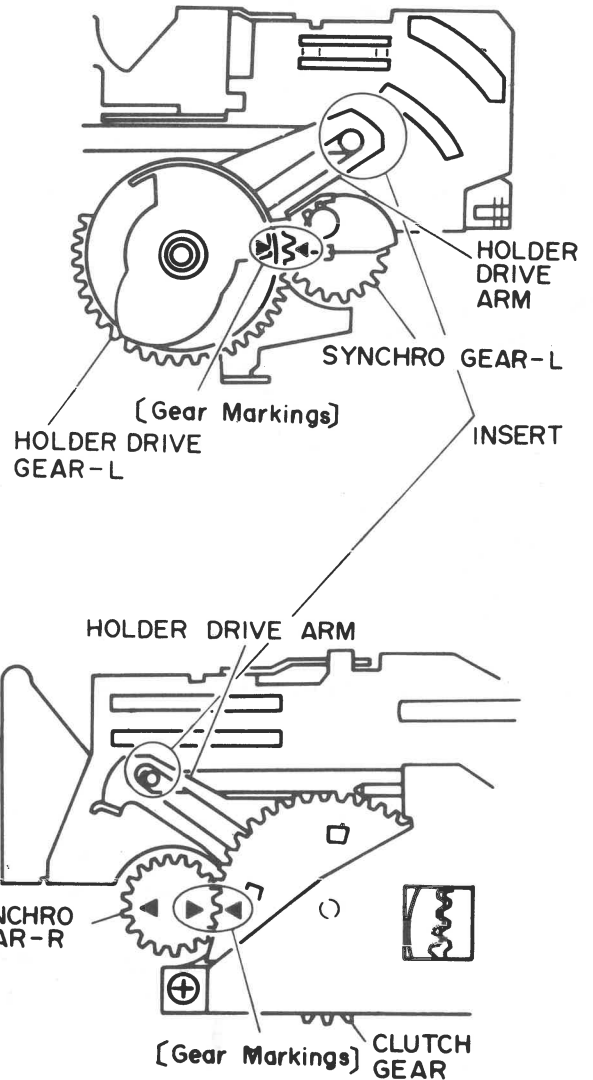

Fig. 16 Door Drive Arm/Gear Alignment
- The cassette holder should be securely inserted into the holder drive arm when installing the cassette holder to the (L/R) side chassis (Fig. 16).
- Align the timing marks with drive gear when installing the (L) synchro gear (Fig. 16).
- Install the motor block while aligning the two (2) timing marks on the (R) synchro gear and clutch gear (Fig. 16).